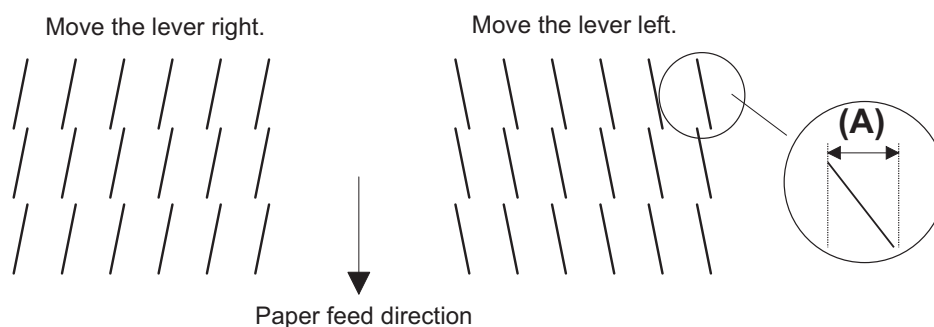

Figure 4-5. Black Head Angular Adjustment
6. Move the angle adjust lever to align the vertical lines continuously by making the width (A) less than 4/1 of the line width, as shown in Figure 4-5.